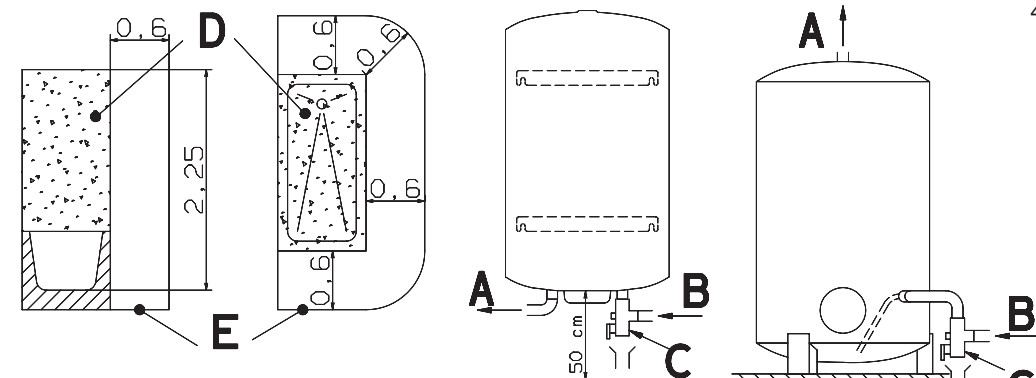

Fig. 1
- Fig.1 D- volume enveloppe
- Fig.1 D- shell volume
- Fig.1 A- volume do invólucro